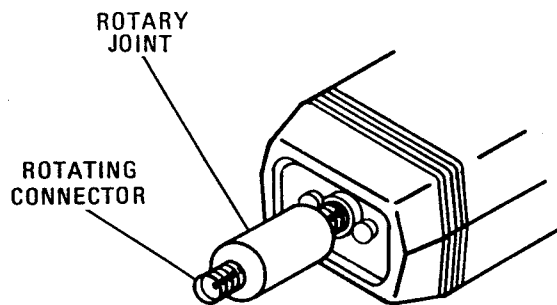

Figure 11. RF Rotary Joint Mounted on Probe (Option 001)
3. Screw the fixed end of the Rotary Joint clockwise onto the probe's SMA Connector (see Figure 11).